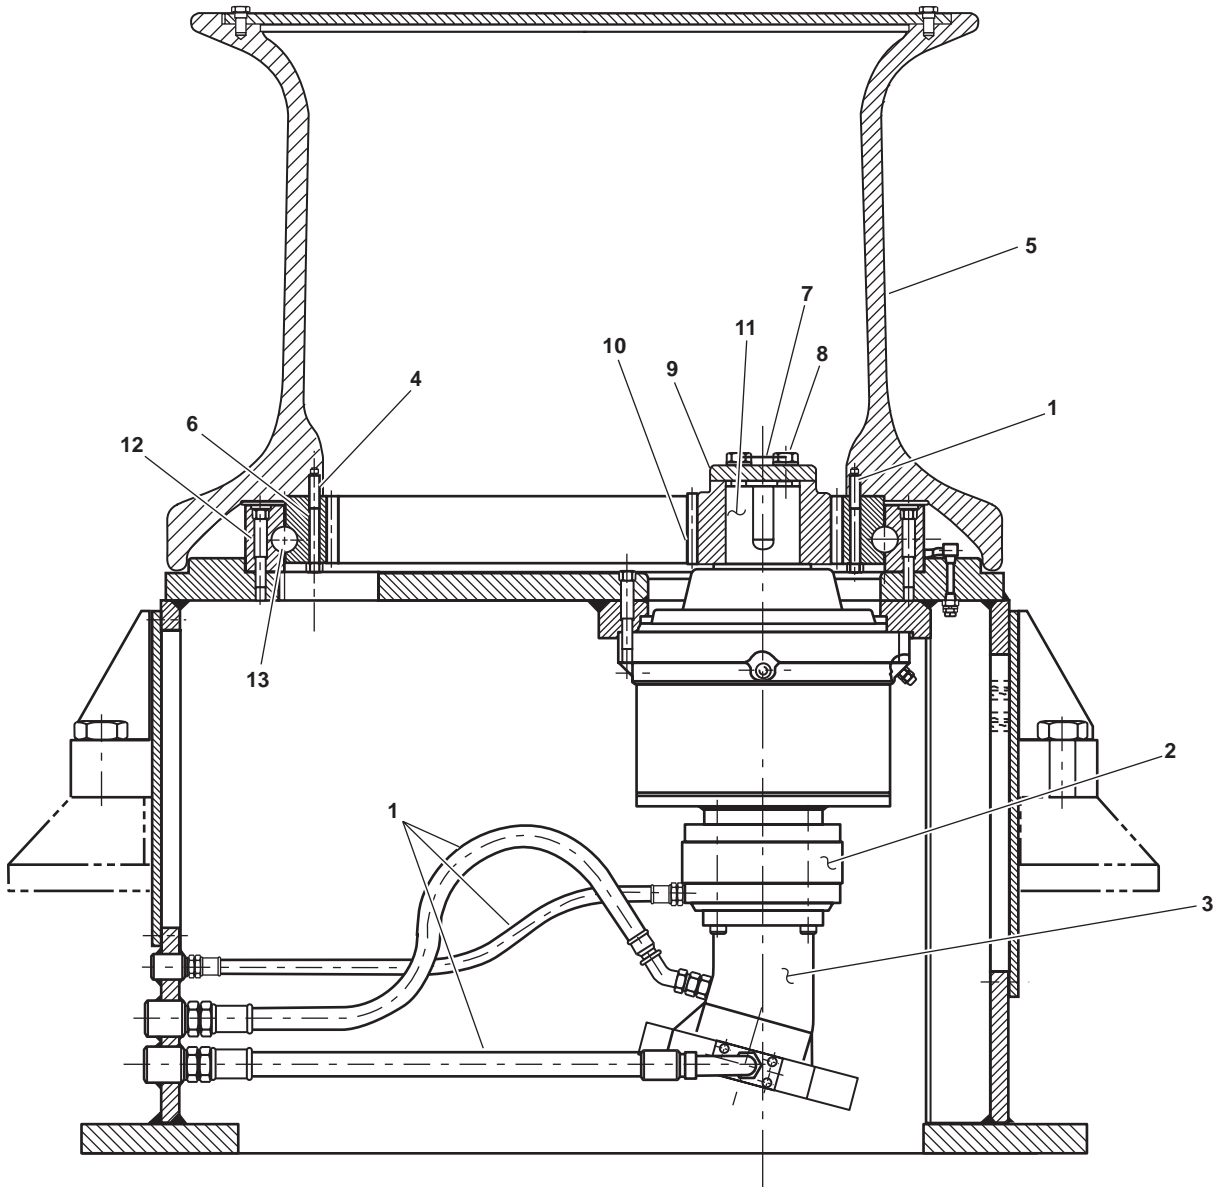

Figure 1. Capstan Repair
1. Position a suitable drain pan beneath the hydraulic hoses (figure 1, item 1).
2. Loosen, but do not remove, the hydraulic hoses (figure 1, item 1) to release pressure from the system.
3. After all the pressure has been relieved, disconnect the hydraulic hoses (figure 1, item 1) at the brake (figure 1, item 2) and motor (figure 1, item 3).
4. Cap the hydraulic hoses (figure 1, item 1) to prevent contamination.
6. From AMS 2, remove the 36 bolts (figure 1, item 4) that secure the capstan head (figure 1, item 5) to the inner bearing race (figure 1, item 6). Use a suitable crane to lift the capstan head free.
7. Cut the lockwire (figure 1, item 7).
8. Remove the two bolts (figure 1, item 8) and the retainer plate (figure 1, item 9).
9. Remove the pinion gear (figure 1, item 10) from the shaft (figure 1, item 11).
10. Remove the 24 bolts (figure 1, item 12) that secure the main bearing (figure 1, item 13) to the base.
11. Use a suitable crane to lift the main bearing (figure 1, item 13) from the base and set aside.
1. Using the suitable crane, position the main bearing (figure 1, item 13) on the base and install the 24 bolts (figure 1, item 12). Torque the bolts to 300 lb-ft (407 Nm).
2. Spin the inner bearing race (figure 1, item 6) and ensure that the main bearing (figure 1, item 13) spins freely. If not, loosen the bolts (figure 1, item 12), reposition the main bearing, and torque the bolts to 300 lb-ft (407 Nm).
3. Install the pinion gear (figure 1, item 10) onto the shaft (figure 1, item 11).
4. Install the retainer plate (figure 1, item 9) with the two bolts (figure 1, item 8). Torque the bolts to 85 lb-ft (406 Nm). Lock wire the bolts after they are tightened.
7. Lower the capstan head (figure 1, item 5) into place.
8. Install the 36 bolts (figure 1, item 4). Torque the bolts to 175 lb-ft (237 Nm).